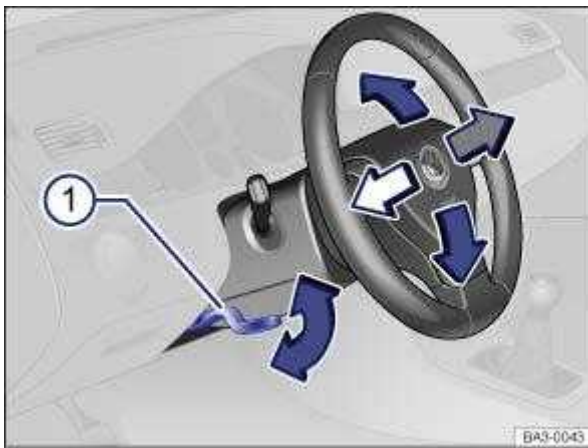

Fig. 67 Below the steering wheel in the steering column trim: lever for mechanical adjustment of the steering wheel position.
Push down the lever ⇒ Fig. 67①.
After adjusting the steering column, always move lever ⇒ Fig. 67① up so that it engages securely. This prevents the steering column from moving spontaneously while the vehicle is in motion.